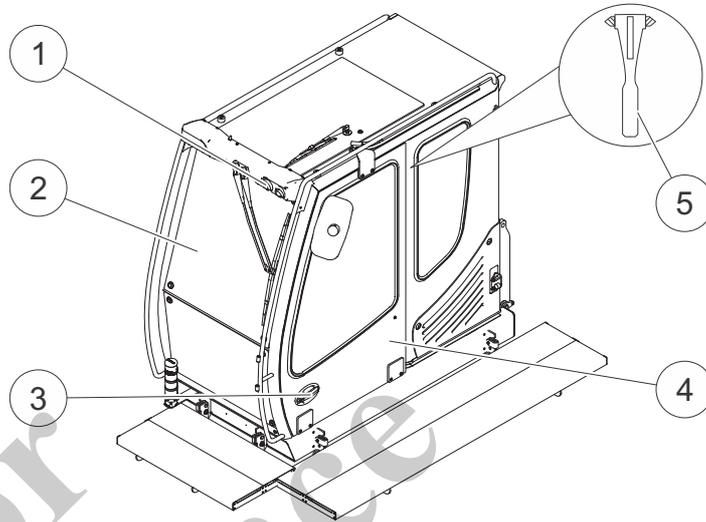

Fig. 49 Cab components
In an emergency, you can exit via the side windows or windshield. To do this, use the emergency hammer (6) in Fig. 49 to break the glass.